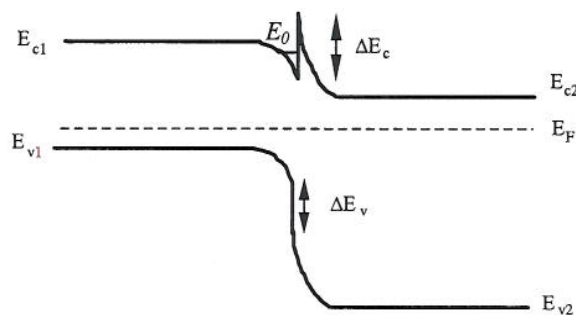

Figure 1.2: Energy band diagram of an an-isotype heterojunction.
- e) Given the energy band diagram of the an-isotype heterojunction in fig.1.2, do you expect the energy level in the quantum well E_0 to be populated with holes, electrons or no carriers. Explain your answer **briefly**. [2]